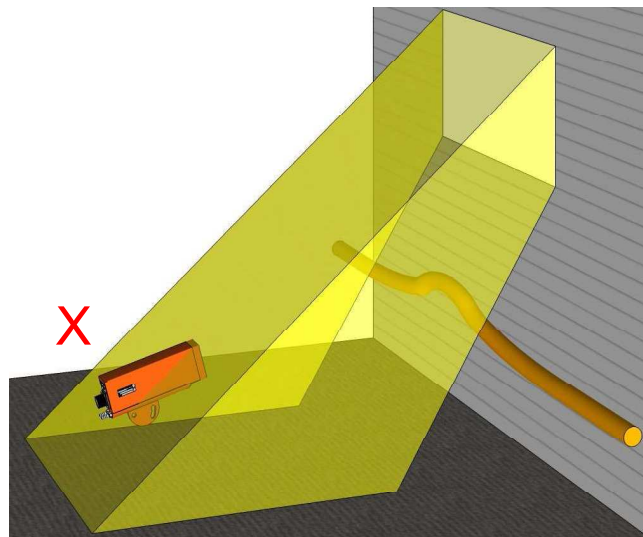

Fig. 10: Example of poor positioning, external luminous sources can compromise operations
- External sources of light or infrared radiation (lights or windows, etc) should not be present in the field of observation of the detector, figure 10